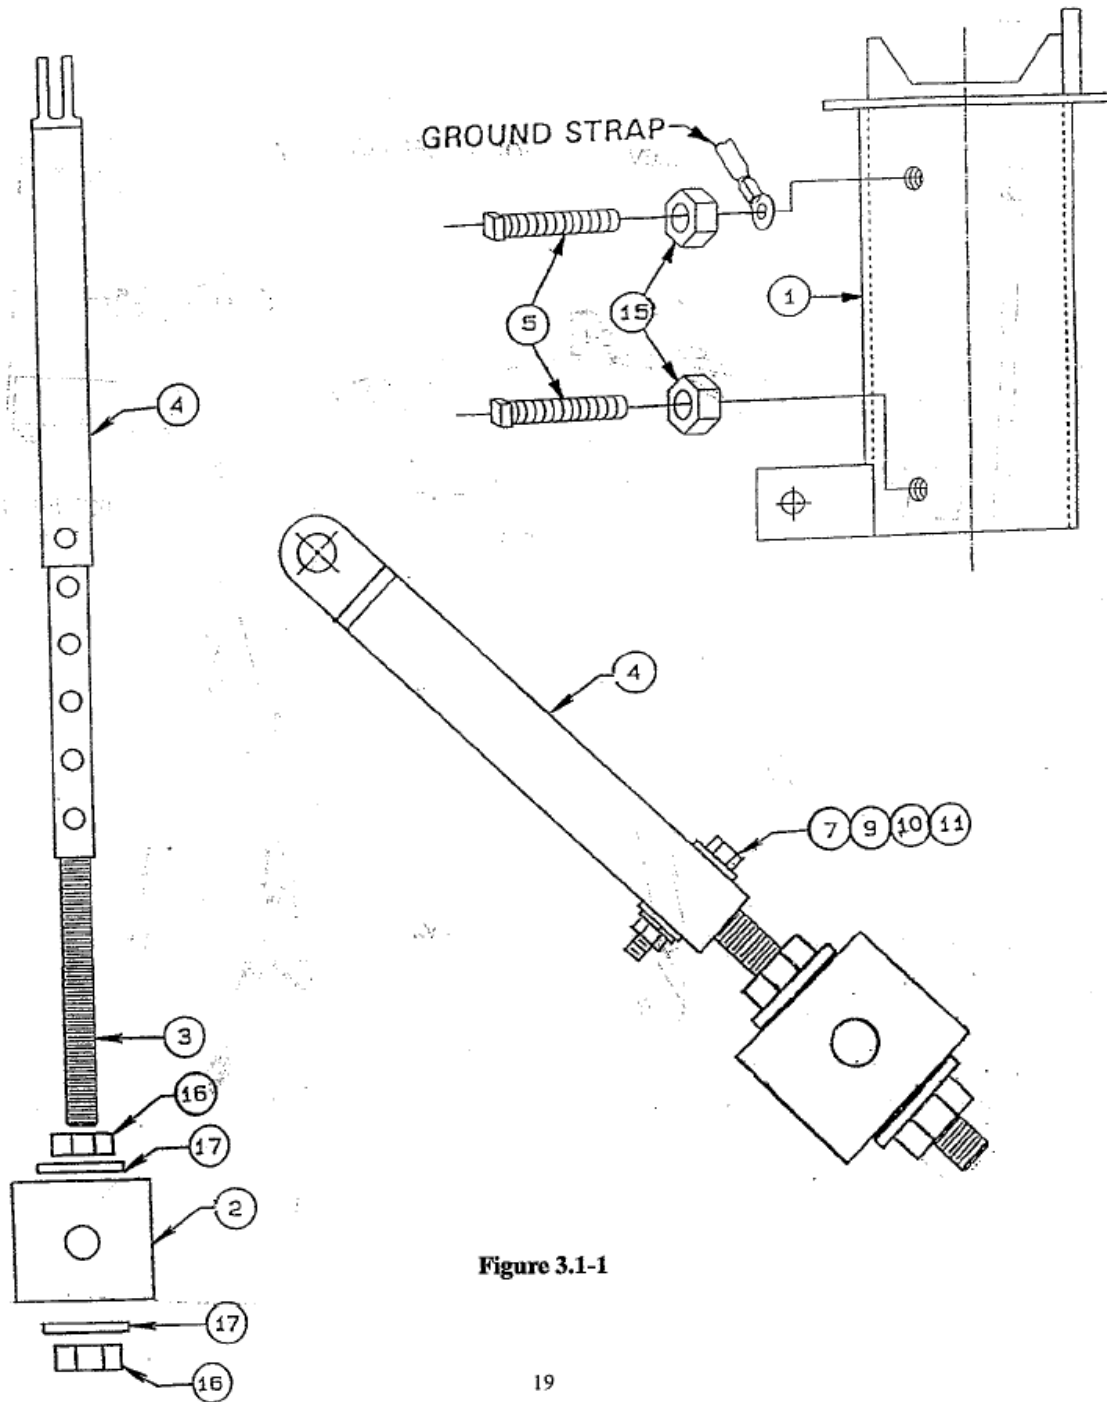

Figure 3.1-1
Refer to the reflector mount parts list (table 3.3) and figure 3.1-1 and follow the instructions in the listed sequence.
2. Assemble the elevation rod by placing the inner strut (item# 3) all the way into the outer strut (item# 4), and securing with [1] 1/2-13 x 2.25" bolt, [2] flatwashers, [1] lockwasher, and [1] 1/2-13 hex nut (items # 7,9,10,& 11). Next run [1] 3/4-10 hex nut (item# 16) up the threads of the inner strut, place a 3/4" flatwasher (item# 17) against the hex nut, and insert the strut through the elevation adjustment block (item #2). Secure with another 3/4" flatwasher and 3/4-10 hex nut. The elevation rod assembly should now be as shown in figure 3.1-1. ***NOTE: There is an optional short inner and outer strut available from General Dynamics for an elevation look angle range of 0° to 50°. There is an optional elevation mounting bracket for an elevation look angle range up to 90°. Contact General Dynamics for more information.***